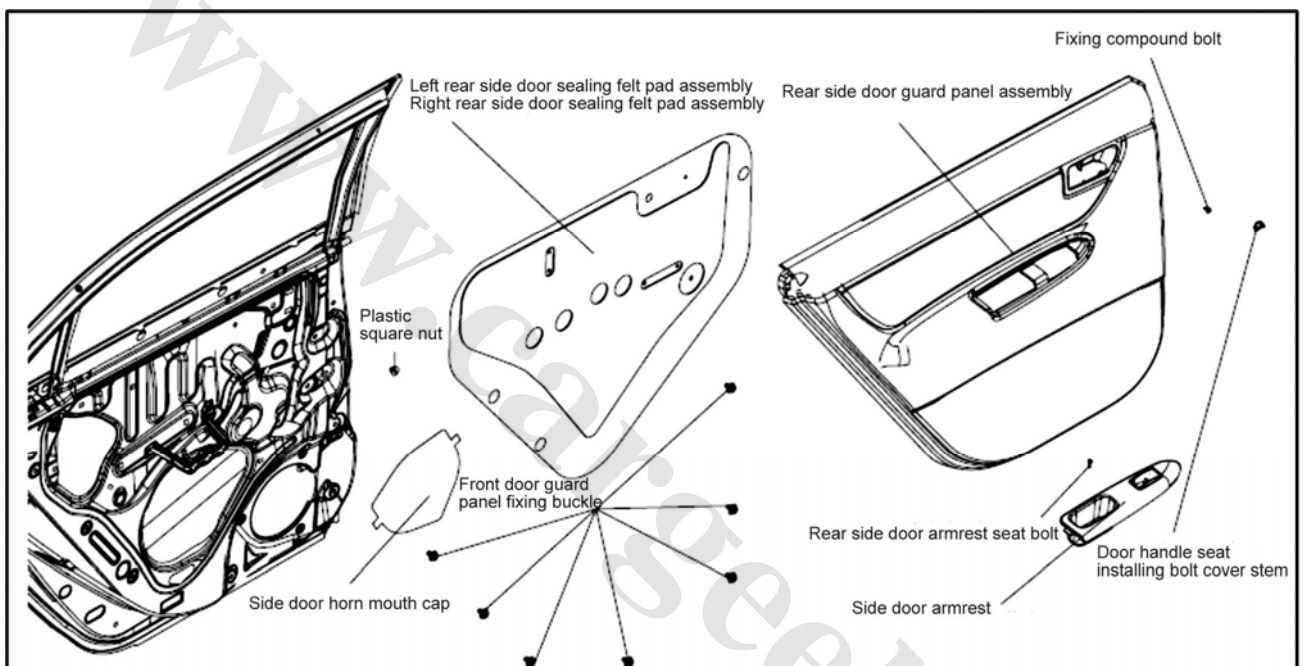

Fig. 7-24
- ① Glue the door horn mouth cap to the lower side round mouth at the position as shown in the figure.
- ② Glue the rear side door sealing felt pad assembly on the door inner metal sheet and after confirming that its hole position directly faces with that of the metal sheet, press them tightly.
- ③ Install the armrest seat installing bracket.
- ④ Confirm the non-installation of the inner handle installing bolts, install seven door plate fixing buckles on the door plate bracket. Put the upper body buckle seat into the place between the door plate and the glass first. As shown in Fig. 7-24: then lead the buckle to aim at the installing hole of the buckle and press the buckle in; after this, the door guard panel is installed on the door inner plate.